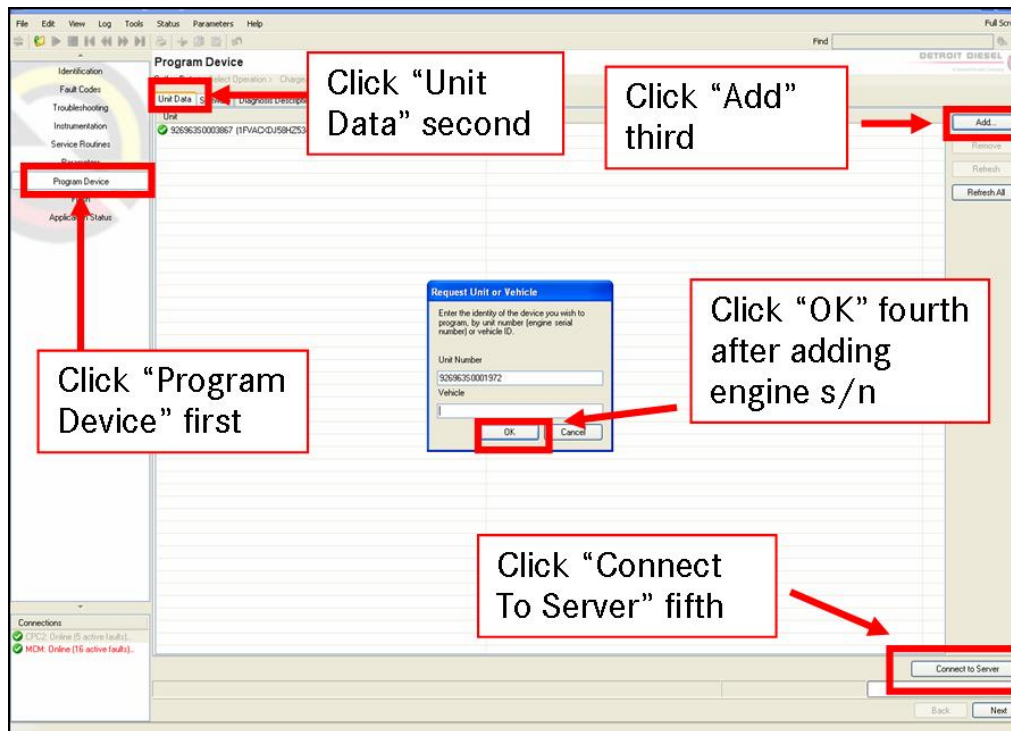

Figure 3
- b. Click on the “Program Device” button on the left side of the screen, then click on the “Unit Data” tab near the top, and then click on the “Add” button on the right side of the screen. See Figure 3.
- c. Type in the complete 14-digit engine serial number, click “OK”, click “Connect To Server”, enter your username and password. See Figure 3.